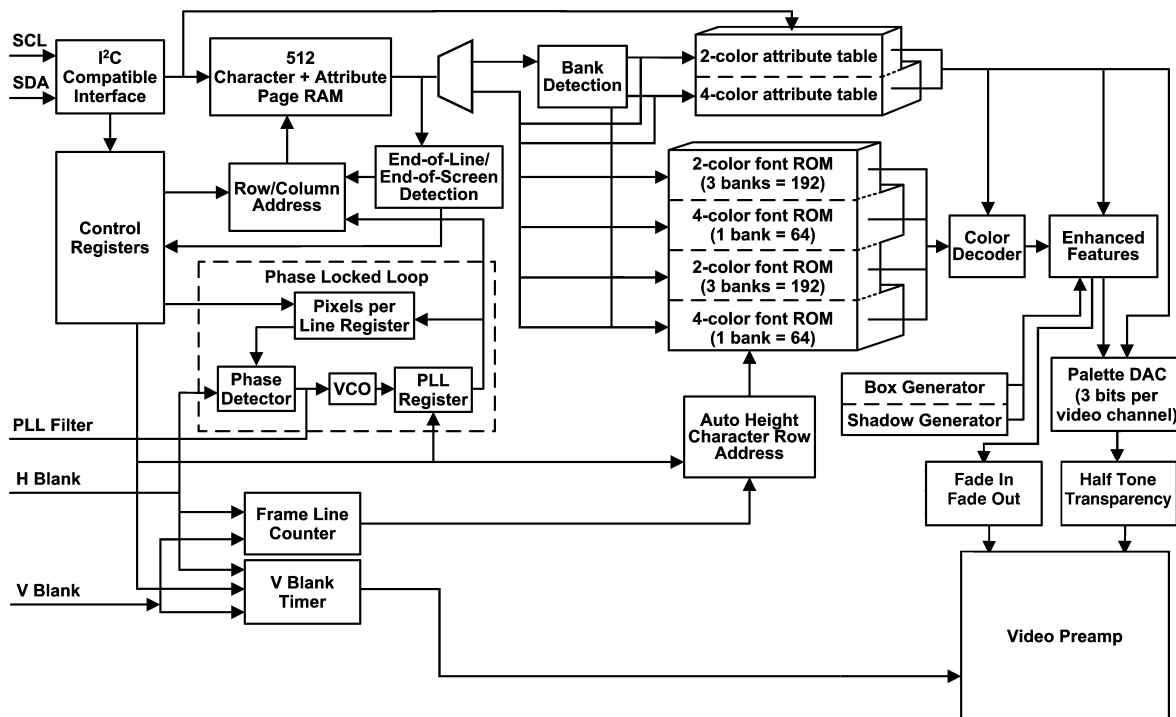

Figure 14. OSD Generator Block Diagram
Figure 14 shows the block diagram of the OSD generator. OSD screens are created using any of the 512 predefined characters stored in the mask programmed ROM. The LM1246 offers two modes of operation. The full 9-bit character code definition mode **allows the entire 512 ROM character set to be displayed at once**. There is also an 8-bit character code definition mode, which ensures compatibility with the LM1247. In this mode, the LM1246 works exactly as a LM1247, where only half of the 512 ROM characters can be displayed at any one time. The two different modes can be selected with bit 2 of register 0x8439, while the default mode is the standard LM1247 mode. Please see the PAGE OPERATION section of the LM1247 datasheet for a detailed explanation on the standard LM1247 mode's 8-bit character code definition and bank select operation. The more flexible 9-bit character code operation enables all 512 character addresses to be independently accessed on one page, however this mode requires more information to be transmitted to specify a full 9-bit character code. The standard LM1247 mode with an 8-bit character code requires minimal I2C transmission as well as minimal ROM in the monitor's microcontroller, however the application is limited to the display of only 254 out of the 512 characters on any single OSD menu page.
The OSD ROM is equivalent to two 256 character ROMs of the type used in the LM1253A and LM1237. When the standard LM1247 is the selected mode of operation, where the bank select method is in effect, each can be considered as a group of 3 banks, (192) two-color characters followed by 1 bank (64) four-color characters. Physically, the combined ROM is then $192 \times 2 + 64 \times 4 + 192 \times 2 + 64 \times 4$. This is shown in Figure 14.